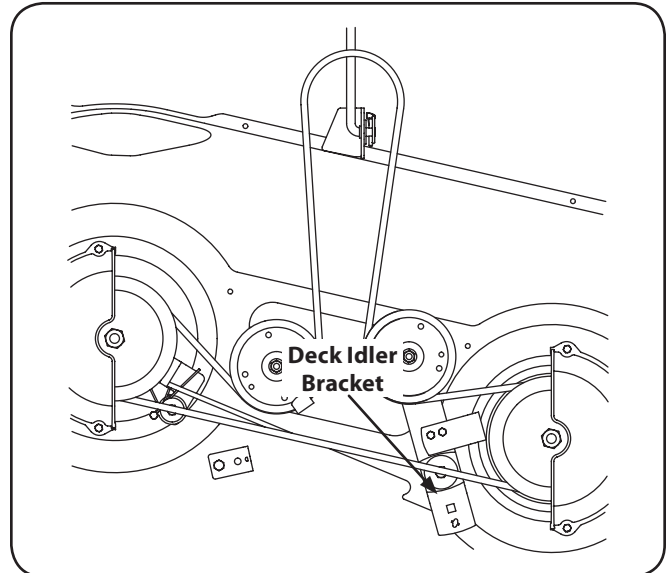

Figure 7-2
**NOTE:** If there is too much tension on the belt for it to be easily removed from the engine pulley, carefully insert a  $\frac{3}{8}$ " drive ratchet wrench (set to *loosen*) into the square hole found in the deck idler bracket and pivot it toward the tractor's left side to relieve tension on the belt. See Fig. 7-2.